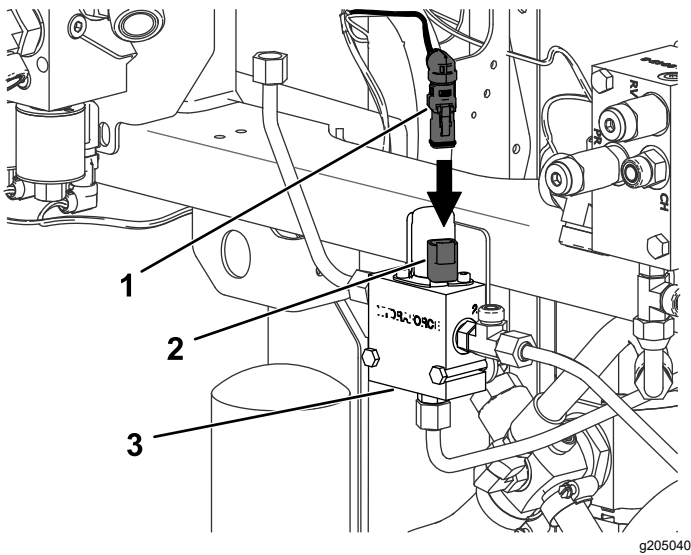

Figure 31
12. Connect the angled plug from the new wire harness into the coil on the 3-way manifold Figure 31.